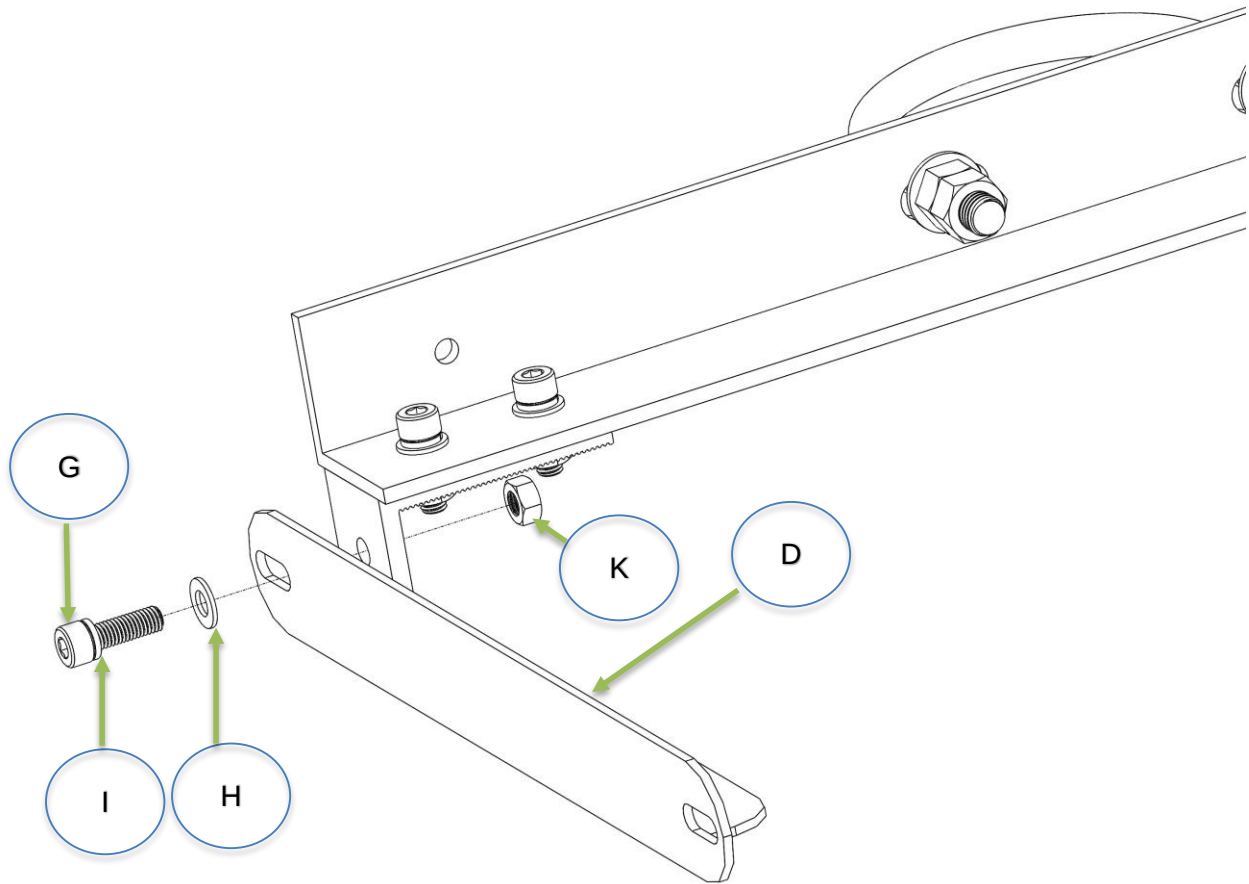

Figure 3
- A. Flush Support Arm (D) to L-Bracket (C) and align the holes.
- B. Place washer on Support Arm (D) surface and align holes.
- C. Feed a Cap Head Bolt (G) through Support Arm (D), and the L-Bracket (C).
- D. Fasten it with small Nuts (K).
- D. The orientation should be close to **Figure 3**.